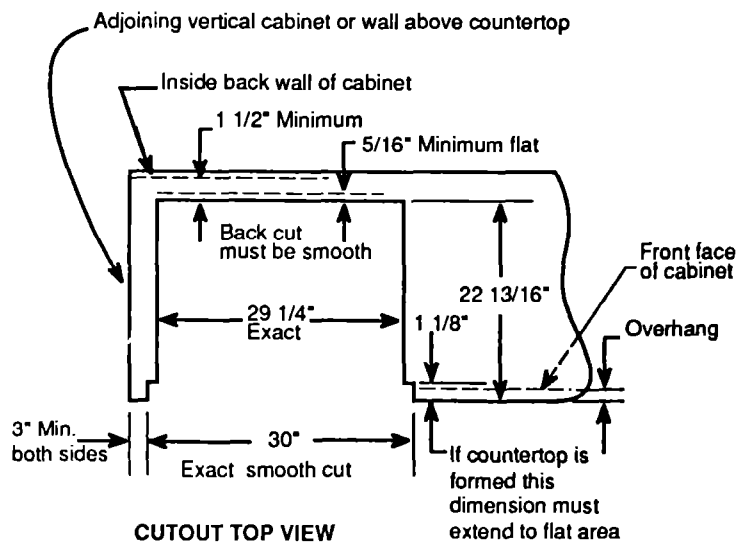

FIG. 1
- See Figures 1 and 2 for all rough-in and spacing dimensions. These dimensions must be met for safe use of your range.
2. Lay out the cutout opening on the countertop per Fig. 1. (Countertop cutout shown in Fig. 1. assumes a standard installation in a 25" deep counter with a standard 1-1/4" overhang.) If the overhang is less than 1-1/4", the range front side trims and control panel end caps will extend into the 30" cutout. If the overhang is greater than 1-1/4", a gap between the cabinet face and the range front side trims will exist. A moulding may be fitted to provide a more custom appearance. Before cutting, check for dimension marked min. (Fig. 1). If these dimensions are not met, the product can be moved forward on the countertop until minimum dimensions are met. (Decrease the cutout dimensions 22-13/16" & 1-1/8" by the amount of the forward movement.) This will make the end caps extend forward in front of the countertop and may create a gap between the range front trims and the cabinet face. If this occurs, fit moulding as above. If it is not flat at the back of the notch, the raised area must be filed or cut away to fit.